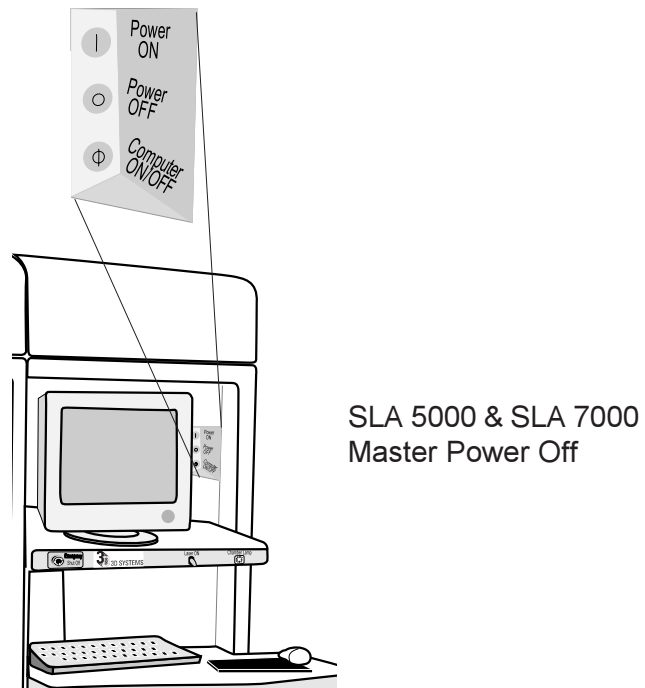

Figure 19. SLA 5000 & SLA 7000 Master Power Off Button
- The SLA 5000 and SLA 7000 master power shut-off button is located to right of the monitor (Figure 19)